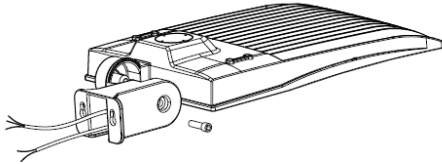

Figure 5
1. Remove the bracket mounting screws from the fixture and run the wires through the bracket. (Figure 5)